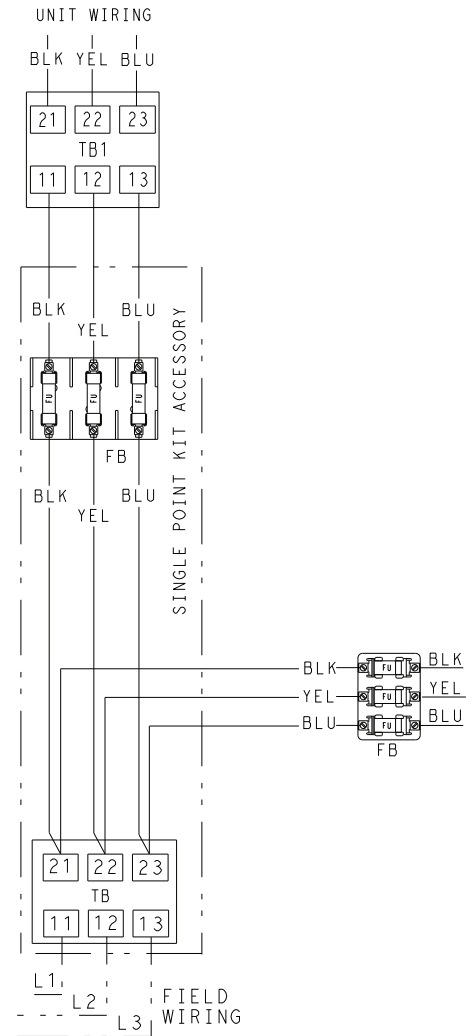

Fig. 47 — Wiring Diagram for Single Point Kit Accessory When Required
7. To be used with Standard SCCR (5ka) Units Only. Refer to Fig. 47 for wiring single point kit accessory when required. Using three 1/4-20 nuts, connect power wires to the load side of terminal block.